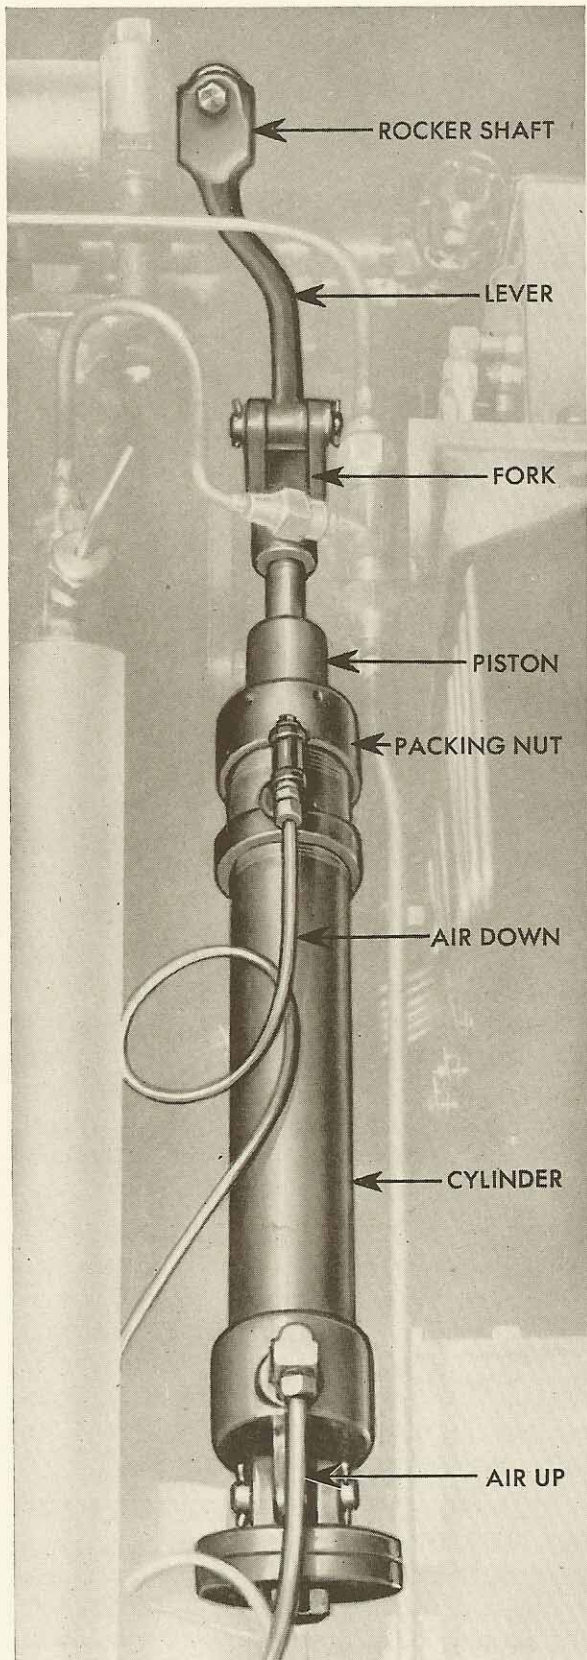

FIGURE 5-8
24. AIR RAM: The rocker shaft of number one cylinder has a forward extension on which there is a lever, and this lever is moved through an arc of 110 degrees to rotate the shafts and lower the air-start rockers. This is done by an air ram, which is shown in Figure 5-8, and is merely a cylinder with a piston and rod. This piston is moved up or down by air pressure, turned on and off by the single-lever control, as we shall see later.
Reference to Figure 5-8 shows that the piston diameter is almost as large as the cylinder bore. At the lower end of the piston there are two piston leathers faced in opposite directions. The upper end of the cylinder is sealed